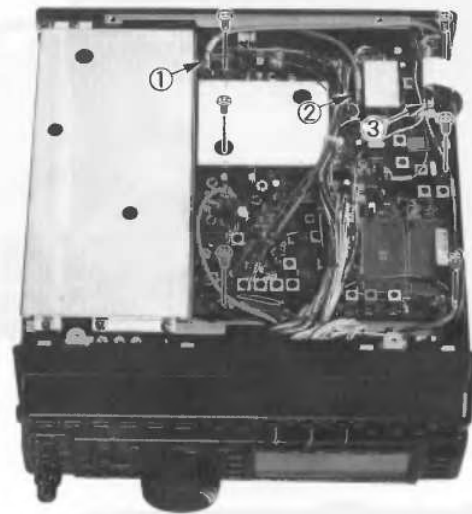

Figure 2: RF Unit Location
- Disconnect the light-blue-banded coaxial cable from J2026 near the rear of the exposed RF Unit (① in Figure 2). If you are not installing any crystal filters, skip the next three steps.
- If installing crystal filters you will need to access the solder side of the RF Unit. Unplug the yellow-banded coaxial cable from J2024 near the rear corner of the RF Unit (② in Figure 2).
- Using a small sharp tool, gently pry up on either side of J2011, the white plastic ribbon cable socket near the rear left corner of the RF Unit (③ in Figure 2), about 2 mm (1/8 inch), until the ribbon cable can be removed (see Figure 3).
- Remove the six screws indicated in Figure 2 (one is inside the large shield housing, accessible through the hole near the corner).
- Replace the six screws removed from the RF Unit (Fig.2), and replace the coaxial cables (① and ② in Fig. 2): the yellow-banded cable goes in J2024, and the light-blue-banded cable goes in J2026.